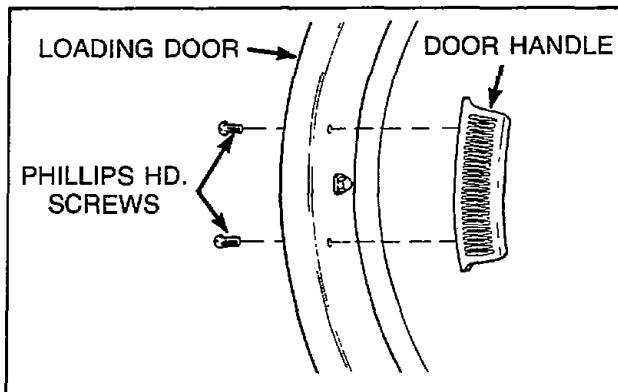

Figure 17
**13. DOOR HANDLE** (Refer to Figure 17)